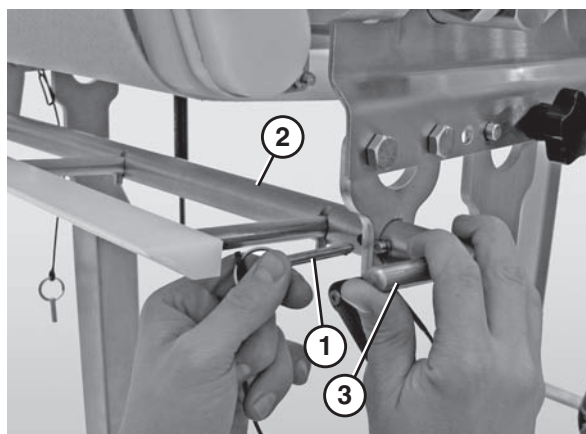

Figure 30
6. Insert the pin (**Figure 30, item 1**) to lock the scraper bar in place (**Figure 30, item 2**).
- Adjust the scraper to the desired position using the scraper bar handle (Figure 30, item 3).